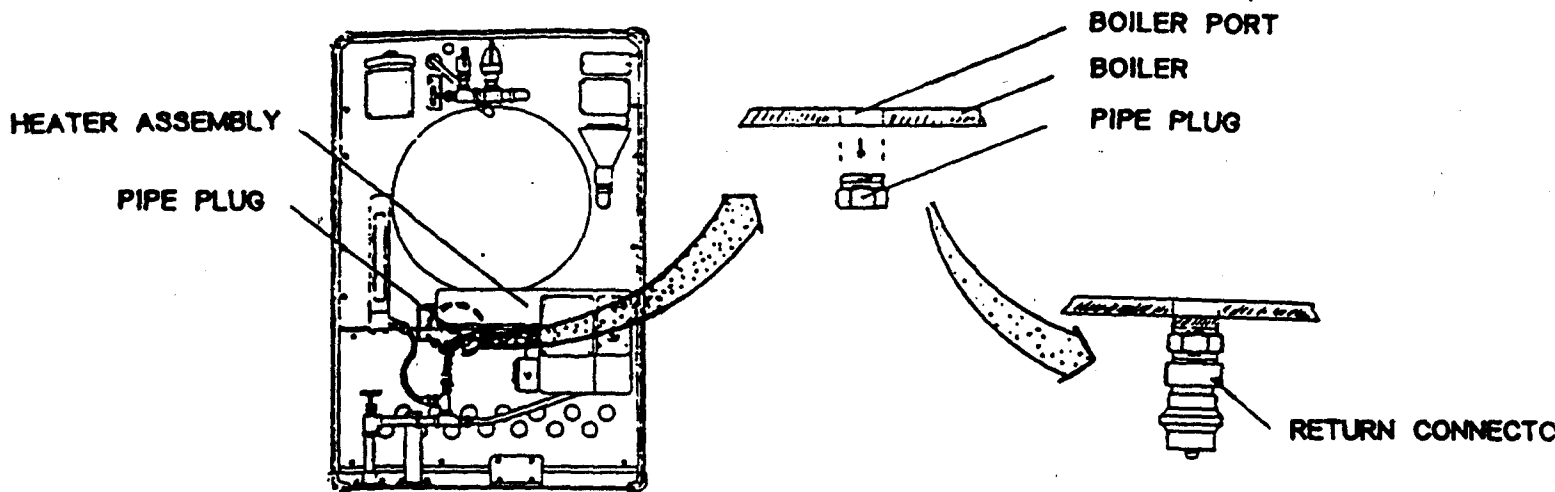

Figure 2-10. Installation of Return Connector.
l. Return connector installation: Facing the back of the 2151, locate the left hex head pipe plug found underneath the heater assembly (figure 2-10). Remove the pipe plug from the boiler port. Apply teflon tape to the return connector threads. Thread the connector into the boiler port and tighten.